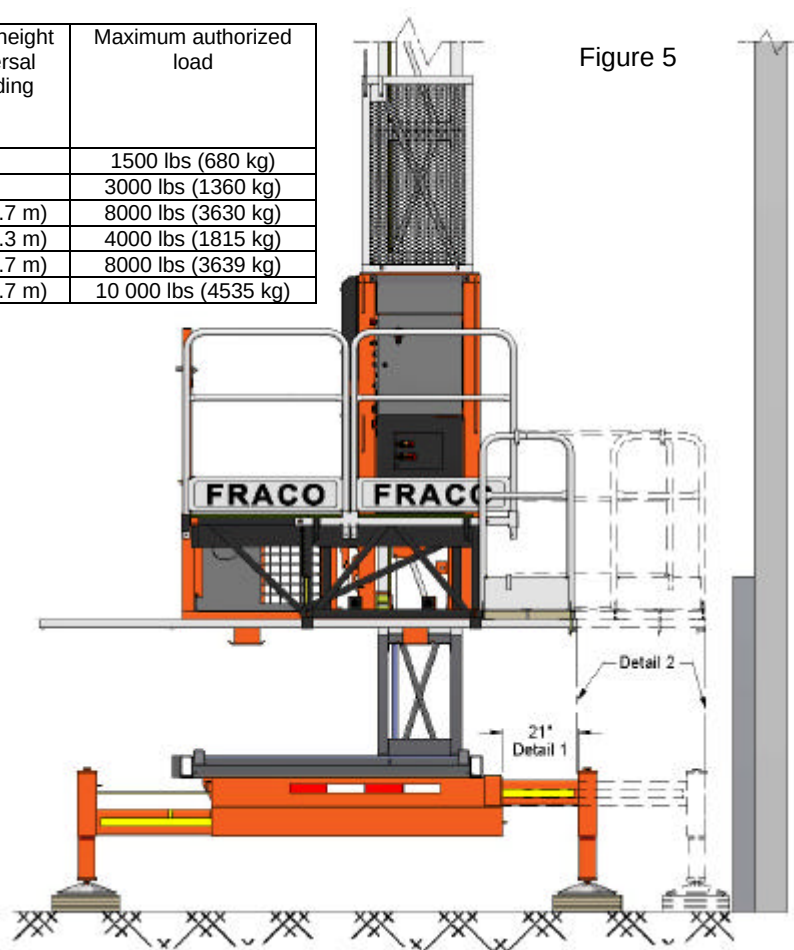

Figure 5
2. **When using the universal freestanding base**, the front and rear stabilisers must be extended to a minimum of 1'-9" (533.4 mm). This measure is designated by the distance between the face of the stabiliser insertion tube and the jacks. (see figure 5. detail 1).
3. For any situation and for each type of platform, the planking area must never exceed the front stabilisers of the freestanding base. (see figure 5, detail 2)